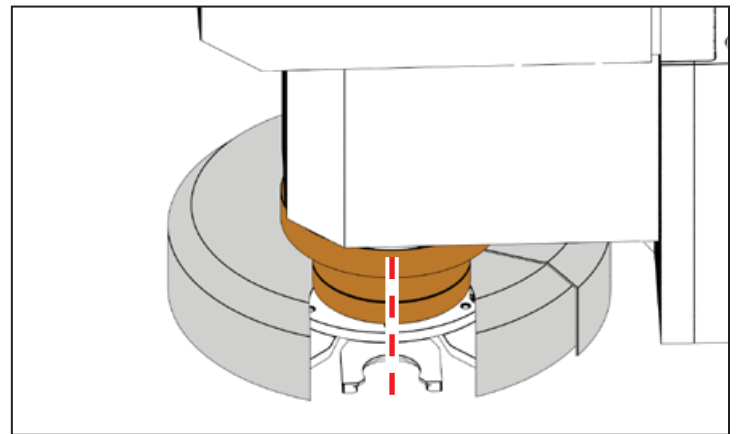

Figure 23
5. Make sure the spindle is centered over the ATC's fork (see **Figure 23**).